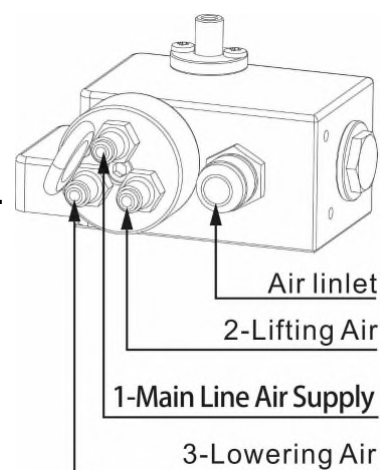

Fig. 2
① Pendant control type (hand control)
② Control valve (on motor)
- ◆ Attach the hoses to the corresponding nipples (Fig.2).